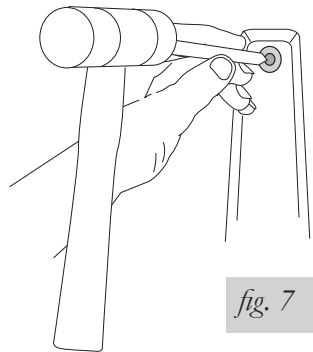

fig. 7
1. If so equipped, it will be necessary to remove the inner fenderwell liner. Carefully drive the pin through the fasteners with a center punch (fig. 7). These fasteners will be reused along with a special spacer to reattach the liner and provide clearance for the air spring. See page # for reinstallation instructions. Do not reinstall until after the entire system has been leak and clearance tested.
- b. Enlarge the hole just below and slightly forward of the existing attachment. Use a  $\frac{3}{8}$ " drill bit to enlarge the hole (fig. 7, front view).
- c. Place the provided spacer (P) on the bracket side of the threads and then reattach the brake line bracket using the original nut (fig. 7, cross-section). This will not compromise the brake line in any way.